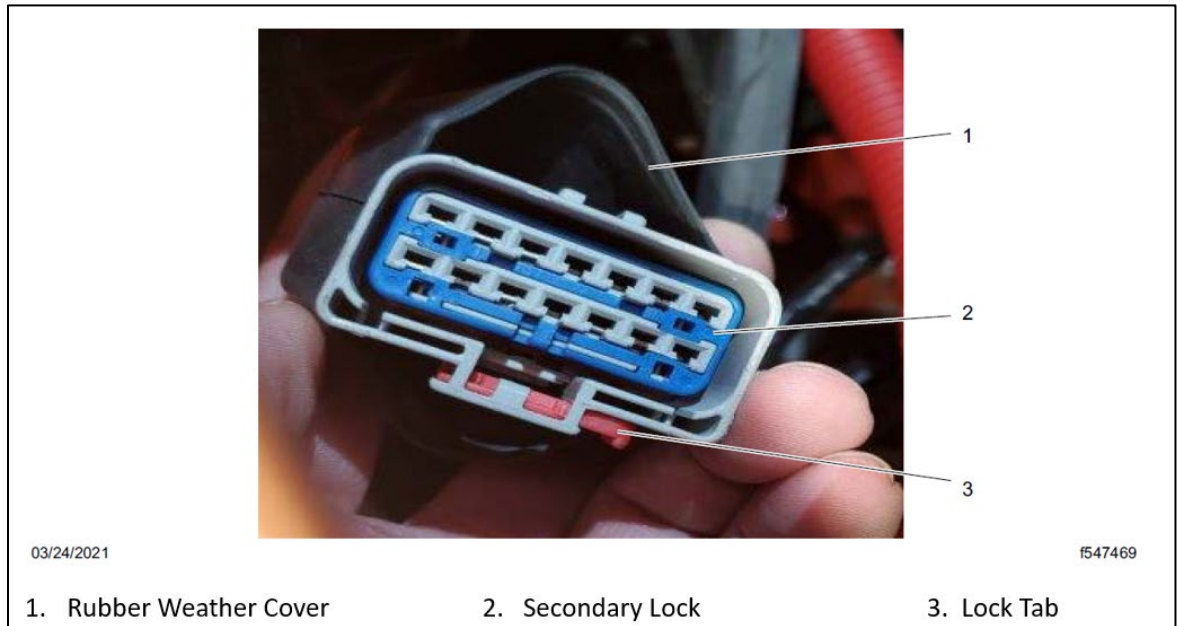

Fig. 3, ENG_CTRL_O_ECU_CM2350_14WAY_1A Connector
- 10.1 To disconnect the connector, unlock the connector by sliding the red lock tab. Press the lock tab and gently pull the connector out. See Fig. 3.
- 10.3 Using needle nose pliers, grab the blue secondary lock by the tab in the center, and pull it out from the connector. See Fig. 3.
- 10.5 Install the blue secondary lock, and the rubber weather cover. See Fig. 3.